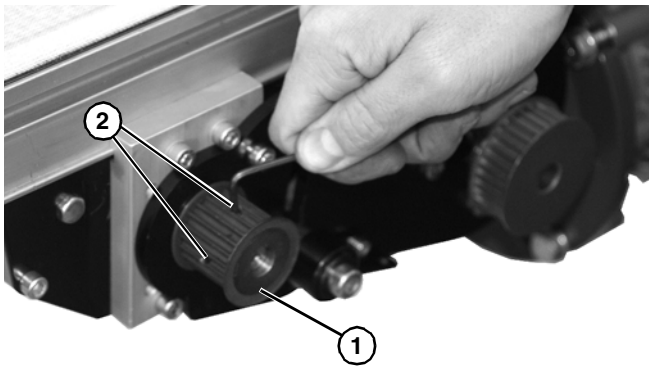

Figure 4
6. Install driven pulley (**Figure 4, item 1**) onto spindle shaft. Tighten two set screws (**Figure 4, item 2**) to 35 in-lb (4 Nm).